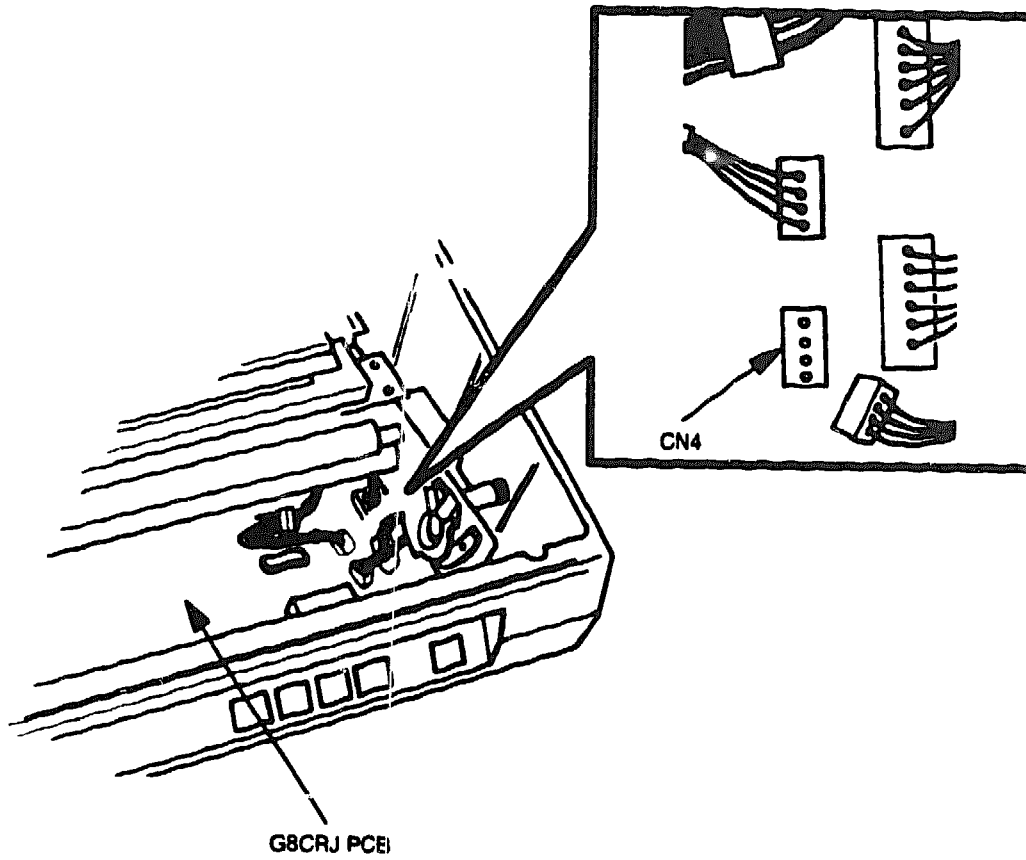

Figure 6-35 CN4 Cover Switch Connector
2. Remove the DC fan (R).
3. Unplug cable connector CN4 from the G8CRJ mechanical control board (see Figure 6-35).